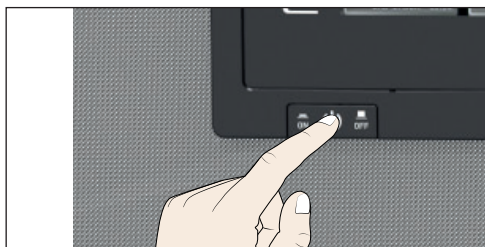

Fig. 17 Switching off the appliance.
3. Switch off the appliance with the main switch (Fig. 17).